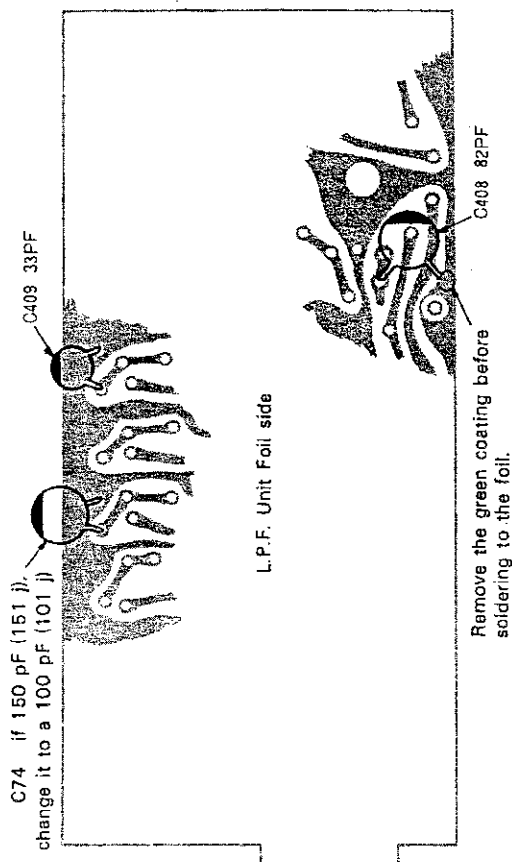

Fig. 14
7. On the Foil side of the board, check C74. If it is a 150pf (151j), change it to a 100pf (101j). See **Fig. 14**.
8. Install C409, 33pf, 500V (33j) as shown in **Fig. 14**.
9. Install C408, 82pf, 500V (82j) as shown in **Fig. 14**. Remove the green coating before soldering to the foil.